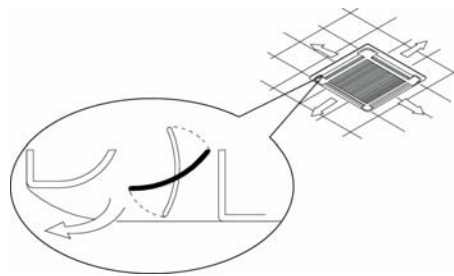

Fig.3
4. It is recommended to position the unit as centrally as possible in the room to ensure optimum air distribution. (Fig.3) Generally the best louver position is the one which allows air diffusion along the ceiling. Alternatively intermediate positions can be selected.